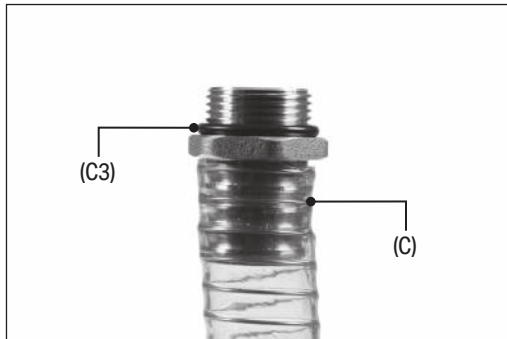

Fig. 1
a. Ensure that each end of the inlet hose (C) is clean and fitted with an O-ring (C3) seal (Fig. 1).